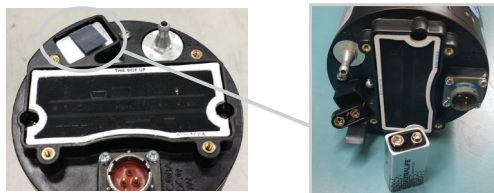

Figure 5-5. Replacing 9V battery
- 5.6.4 Remove 9V battery from where shown in figure 5-5.
- 5.6.5 Disconnect and replace battery as shown in figure 5-5.